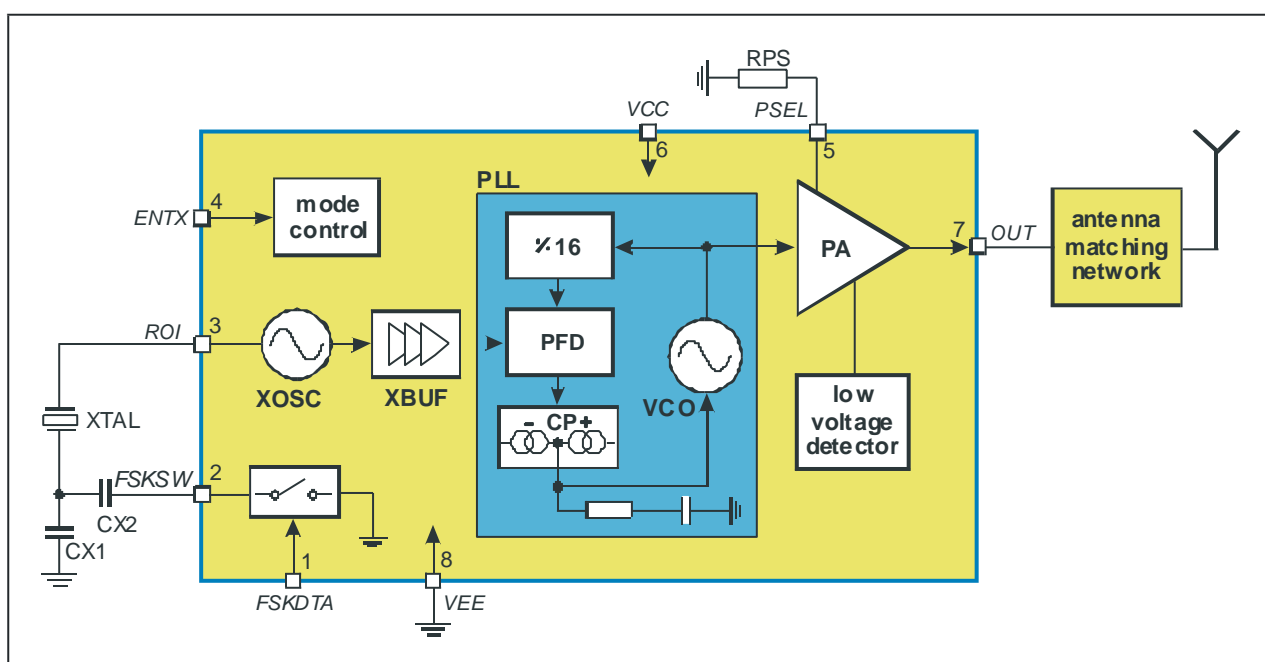

Fig. 1: Block diagram with external components
As depicted in Fig.1, the MLX72013 transmitter consists of a fully integrated voltage-controlled oscillator (VCO), a divide-by-16 divider (div16), a phase-frequency detector (PFD) and a charge pump (CP). An internal loop filter determines the dynamic behavior of the PLL and suppresses reference spurious signals. A Colpitts crystal oscillator (XOSC) is used as the reference oscillator of a phase-locked loop (PLL) synthesizer. The VCO's output signal feeds the power amplifier (PA). The RF signal power  $P_{out}$  can be adjusted in four steps from  $P_{out} = -14$  dBm to  $+11$  dBm, either by changing the value of resistor RPS or by varying the voltage  $V_{PS}$  at pin PSEL. The open-collector output (OUT) can be used either to directly drive a loop antenna or to be matched to a 50ohm load. Bandgap biasing ensures stable operation of the IC at a power supply range of 1.95 V to 5.5 V.